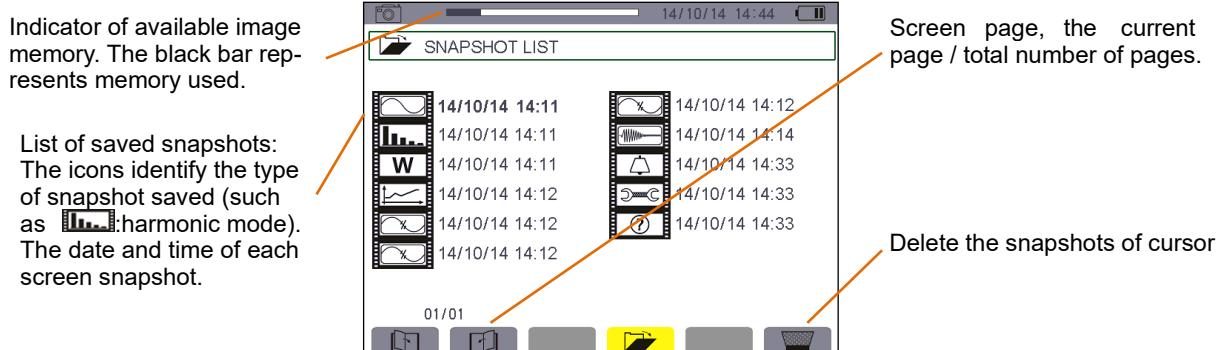

Figure 12-2: example of the snapshot list display screen
Press  briefly to display this list. The screen presents the list of snapshots (see figure 12-2).
- ★ Press . The  icon is active and the snapshot list screen is displayed (see figure 12-2).
From the list of snapshots (see Figure 12-2 for example).